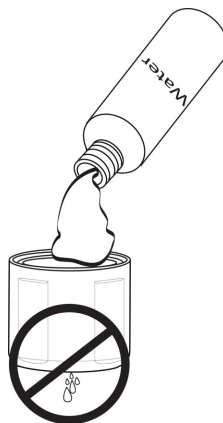

Figure 7-2. Check for leakage
8. Pour clean water into the lower body and look for leakage around the membrane. Dispose of the water, and if there is leakage, replace membrane. See Figure 7-2 (p. 7).